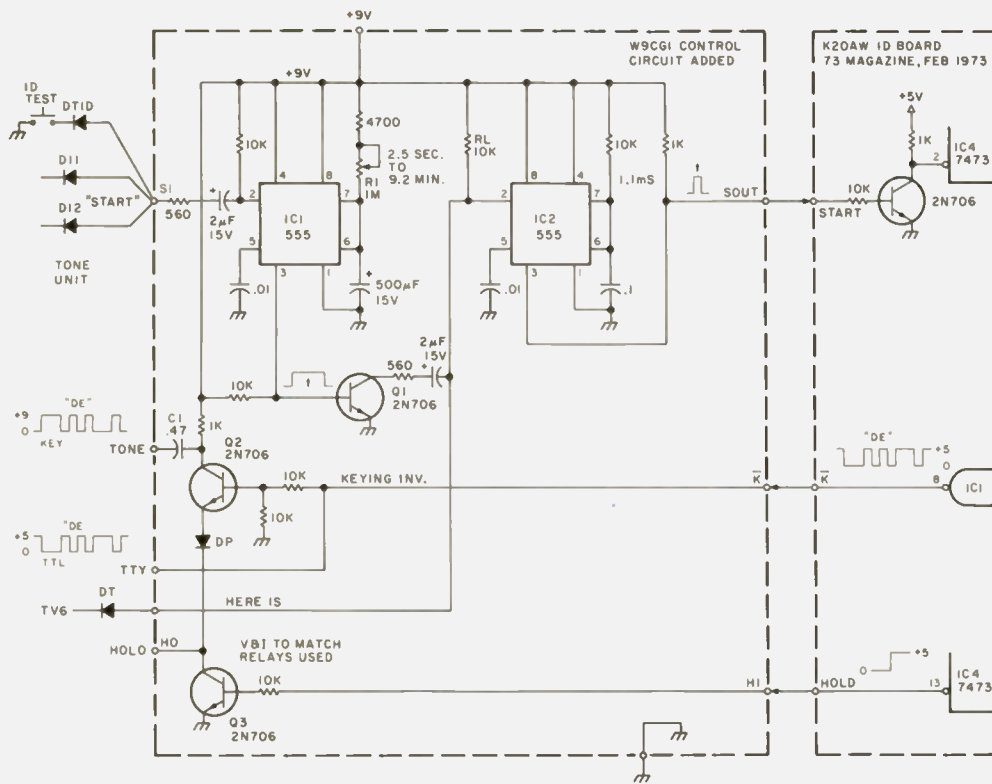

Fig. 3. ID unit.
The fourth single-tone function is a bit more complex in routing, but not in use. Have you ever gone too many minutes between IDs during a particularly interesting conversation? It is easy to do and could get hard to explain to the FCC. Why chance it? With S2 in the ID position, every time the voice circuits are keyed, a ground is placed on the center wiper arm of S2, as explained above, via D6. Continue on through D11 to the start input of the ID block. Before you go to Fig. 3 and the ID unit, note D12 on this same start line. For future reference, it performs D11's func-
Going now to Fig. 3, the right-hand block is an unmodified TTL K20AW repeater ID board from *73 Magazine*, February, 1973. This IDer has worked so well for me in other applications that I used it here. It requires a positive pulse to start it and gives out a high-to-low TTL keying pulse train (K) and a low-to-high TTL hold command to keep the transmitter on for the full call even if you let up on the mike button. This combination of controlling signals is not quite enough to run the ESP unit, thus the W9CG1 control unit on the left and center of Fig. 3.